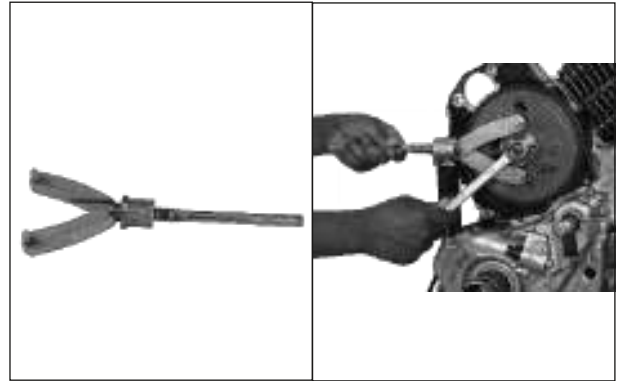

Fig. 1.7
- Insert the pin magneto holder inside the slot provided on magneto rotor and lock the position by adjusting the nut magneto. (Fig. 1.7)